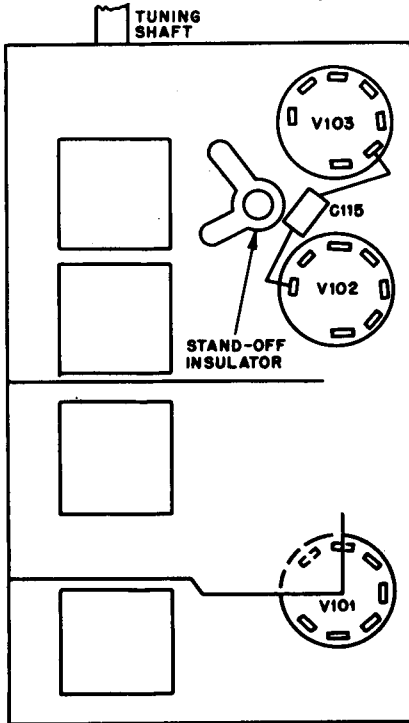

Fig. 44 — DuMont
**Increasing high-channel sensitivity (see Fig. 44).**